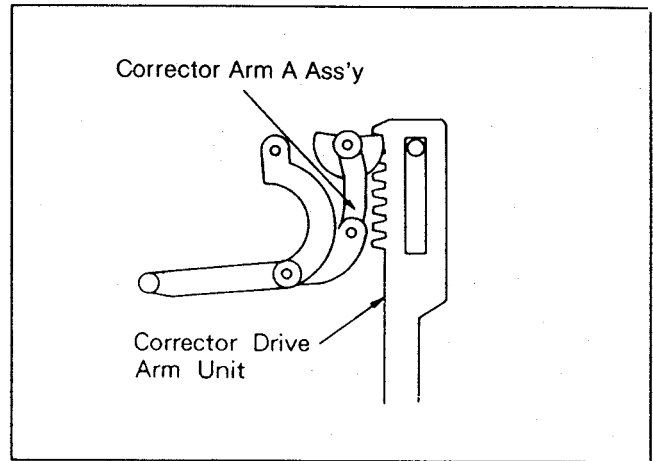

Fig. A6
- 35) Reinstall corrector arm A so that the first tooth on the corrector arm engages the first groove of the corrector drive arm. See fig.A6.